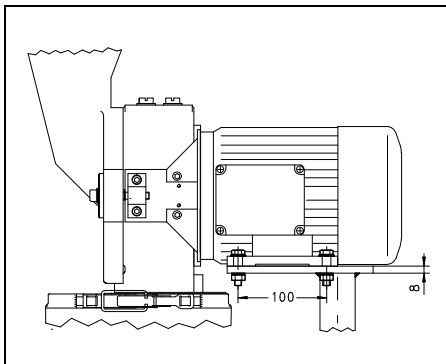

Fig.3
- * Place SK 100 on the base frame **Fig. 3**
You can mount the SK 100 on your laboratory table. **Fig. 3**